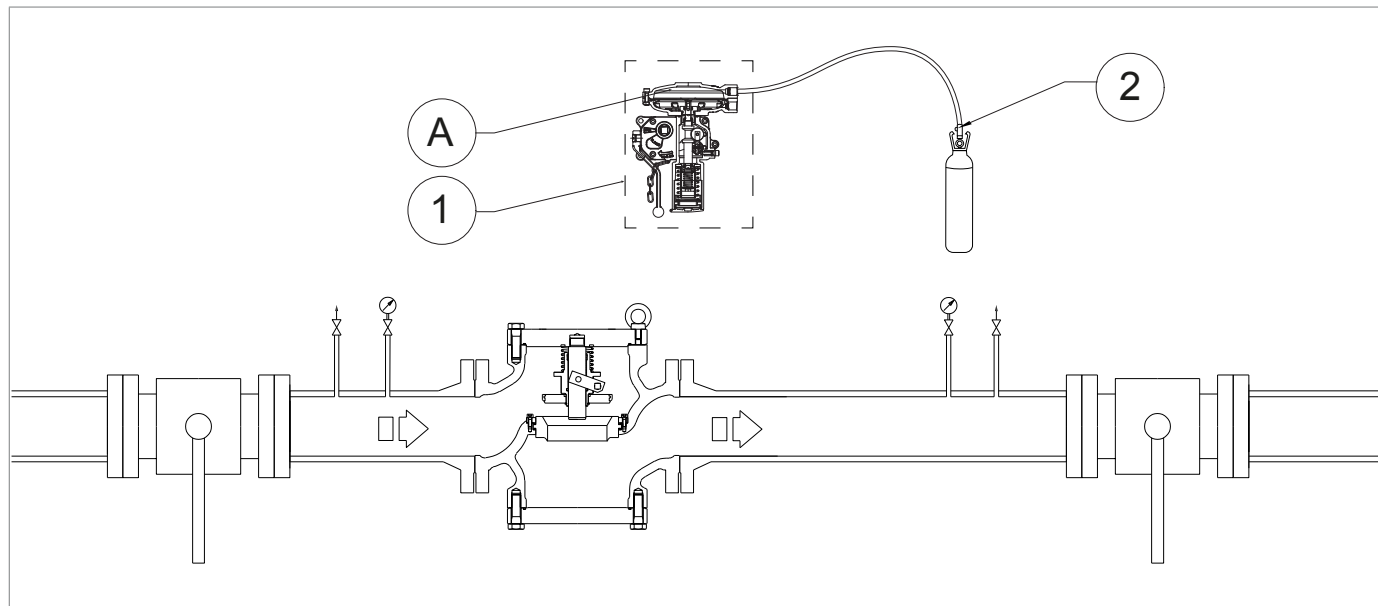

Fig. 8.11. Pressurisation with external pressure source
1	<p>Increase the downstream pressure (<math>D_p</math>) to check correct calibration:</p> <ul style="list-style-type: none"> <li>• of the line, using an external pressure source</li> <li>• of the pressure switch head, referring to "8.5.3 - Pressurising with external source".</li> </ul> <p>! NOTICE!</p> <p>Check the pressure referring to the downstream pressure gauge (Fig. 8.11, ref. 5).</p> <p>If the slam-shut valve:</p> <ul style="list-style-type: none"> <li>• trips before the expected pressure value: screw in (clockwise) the adjustment ring nut (13) so as to further compress the spring (11);</li> <li>• does not trip at the expected pressure value: unscrew (anti-clockwise) the adjustment ring nut (13) so as to relieve the spring (11).</li> </ul>
2	Decrease the pressure in the pressure switch head using the drain cock (3) of the external source or the drain cock (Fig. 8.11, ref. 6)
1	Partially open the bleed cock (Fig. 8.11, ref. 6) and keep it open for the next steps.
2	<p>Decrease the downstream pressure to the minimum required slam-shut valve pressure.</p> <div>  NOTICE! </div> <p>Check the pressure referring to the downstream pressure gauge (Fig. 8.11, ref. 5).</p> <p>If the slam-shut valve:</p> <ul style="list-style-type: none"> <li>trips before the expected pressure value: unscrew (anti-clockwise) the adjustment ring nut (15) so as to relieve the spring (17);</li> <li>does not trip before the expected pressure value, screw in (clockwise) the adjustment ring nut (15) so as to further compress the spring (17).</li> </ul>
3	Close the bleed cock (Fig. 8.11, ref. 6).
2	By opening the vent (Fig. 8.11, ref. 6), decrease the pressure in the downstream section to the calibration value of the main regulator.
3	Close the air vent valve (Fig. 8.11, ref. 6).